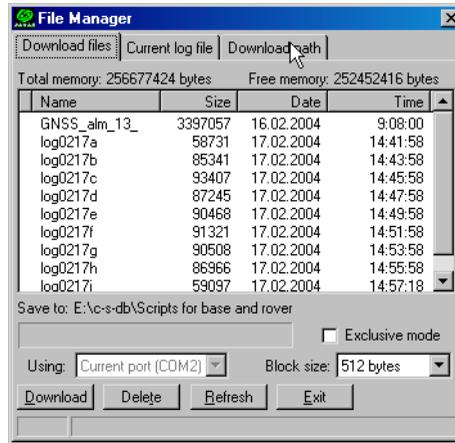

Figure 4-4. Find Files to Download
- Click the **Download path** tab on the File Manager dialog box (Figure 4-4)